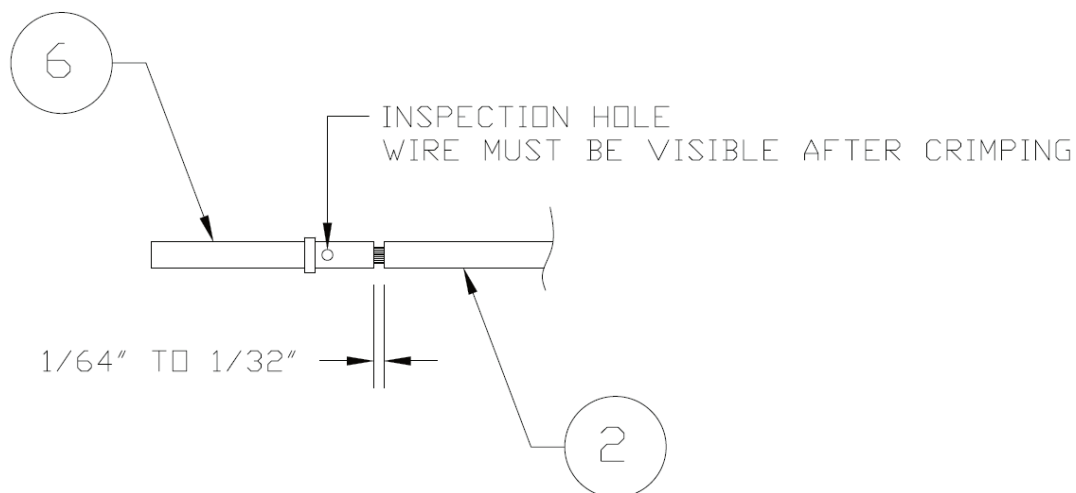

Figure B-7 Insulation/Contact Clearance
- Strip back approximately 0.17 inches of insulation from each wire of the shielded cable (item 2) and crimp a contact (item 6) to each conductor. It is the responsibility of the installer to determine the proper length of insulation to be removed. Wire must be visible in the inspection hole after crimping and the insulation must be 1/64 – 1/32 inches from the end of the contact as shown in Figure B-7.
2. Strip back approximately 0.17 inches of insulation and crimp a contact (item 6) to the 4" length of 22 AWG insulated wire. It is the responsibility of the installer to determine the proper length of insulation to be removed. Wire must be visible in the inspection hole after crimping and the insulation must be 1/64 – 1/32 inches from the end of the contact as shown in Figure B-7.